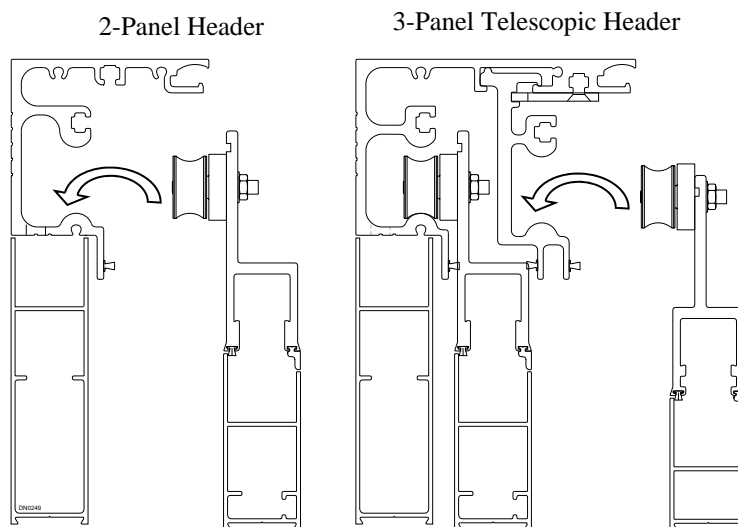

Figure 18
3. Set rollers onto track in header as shown in Figure 18.